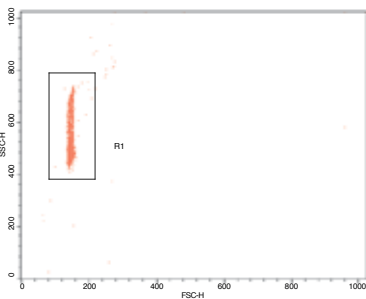

Figure 4
- Gate on the single population(s) on a Forward Scatter vs. Side Scatter plot. (Figure 4)